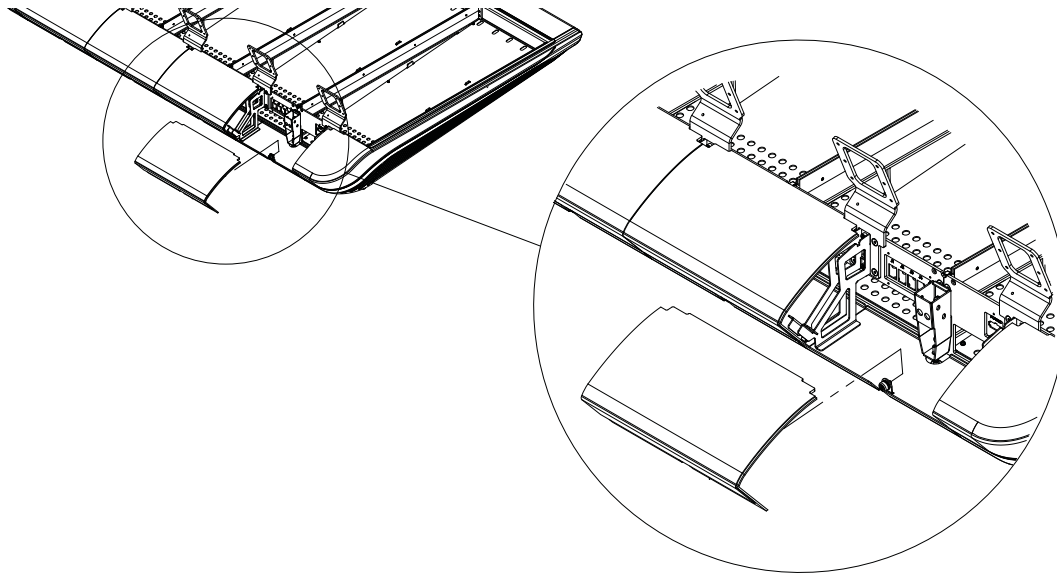

Figure 1. Removing the upper Rear Covers (Display Modules and cables not shown)
- 1 Standing at the back of the system, start at the far-right (see Figure 1).